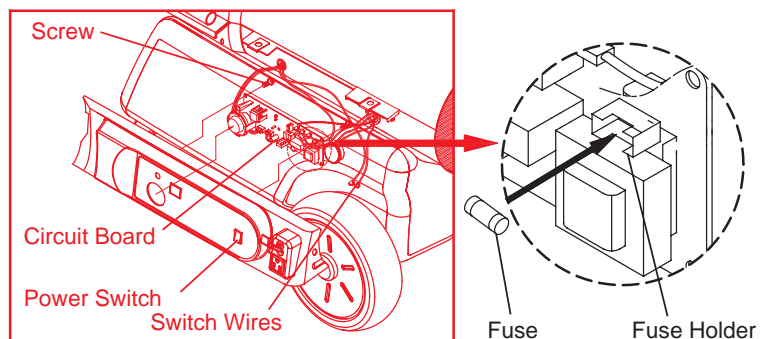

Figure 23. Removing fuse
These screws attach circuit board to side cover(see Figure 23).
6. Remove fuse from fuse holder and replace fuse with enclosed fuse(see Figure 23).